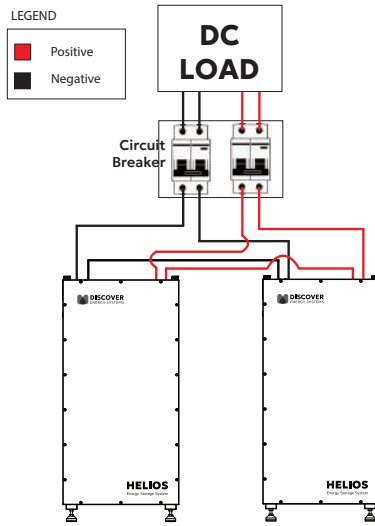
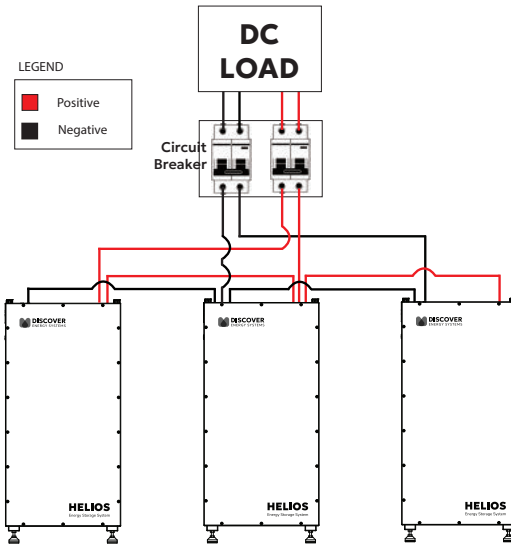

Figure 17. Two Batteries in Parallel (One Parallel Wire Kit 950-0068)
Figure 18. Three Batteries in Parallel (Two Parallel Wire Kits 950-0068)
For multiple battery installation diagrams, refer to Figure 17 and Figure 18.
6. Connect the positive battery cables from the DC load to batteries in the battery bank, and connect the negative batteries cables from the DC load to batteries in the battery bank as shown in Figure 17 and Figure 18. Push the ends of cables against the receiving pins to secure the connection.